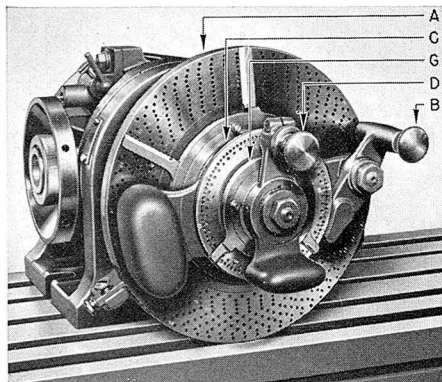

Figure 42
Using crank B on the large plate (Figs. 42 and 43):
1. Consulting the "Degree" table on page 98, set the sector on index plate "A" (Fig. 42) for 18 spaces on the 54-hole circle.
1. Index large crank "B" (Fig. 42) an amount equal to the sector setting, namely 18 spaces.